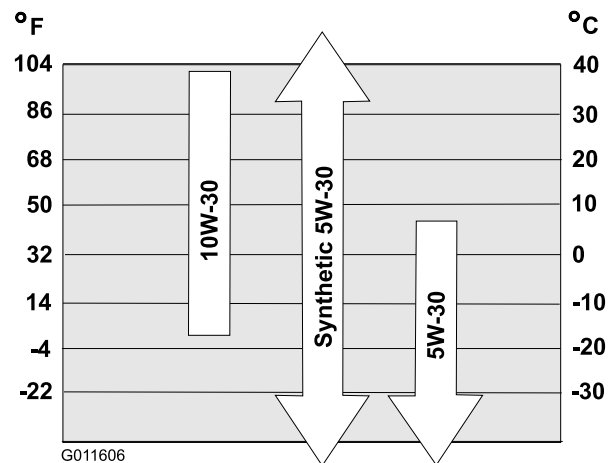

Figure 18
Oil viscosity	Refer to Figure 18.
7. Carefully pour about 3/4 of the engine capacity of oil into the oil-fill tube. Use Figure 18 to select the best oil viscosity for the outdoor temperature range expected.